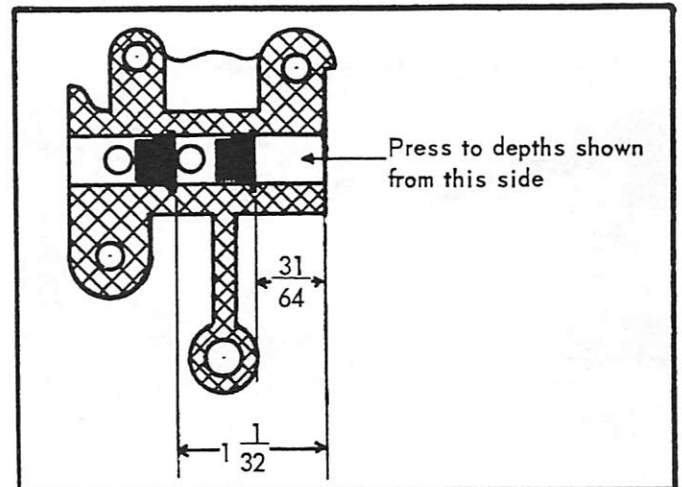

Figure 14. Pressing in Check Valves
- Press new check valves into fuel pump housing from inlet side of housing. (Figure 14)